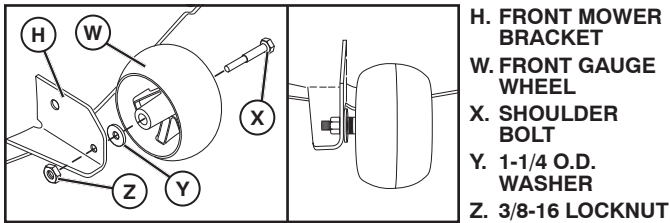

Fig. 25
2. ASSEMBLE FRONT GAUGE WHEEL (W) TO FRONT OF MOWER (See Fig. 25)